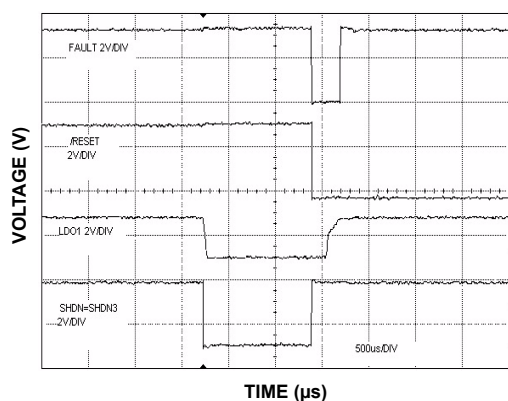

FIGURE 19. SHUTDOWN vs RESET and FAULT
**FAULT** - This is the power good indicator for LDO1. When the 1.8V output is out of regulation ( $>\pm 5\%$ , typ.), this pin goes LOW. This pin also goes LOW during thermal shutdown and any overcurrent event on LDO1. Connect this pin to GND, if unused. This pin remains HIGH in the shutdown mode, as controlled by the SHDN pin (refer to Figure 19).
Driving the SHDN input LOW puts both LDO1 and LDO2 in shutdown mode. Driving the SHDN3 input LOW puts LDO3 in shutdown mode. Pulling the SHDN and SHDN3 pins LOW simultaneously, puts the complete chip into shutdown mode, and supply current drops to 5µA typical. Both SHDN and SHDN3 inputs have internal pull-up resistors, so that in normal operation the outputs are always enabled; external pull-up resistors are not required. During shutdown mode using the SHDN pin, the FAULT output will remain HIGH (refer to Figure 19).
The FAULT pin monitors LDO1 output regulation, as well as fault conditions such as current limit and thermal shutdown. The FAULT output goes LOW, if the LDO1 output is out of regulation by  $\pm 5.5\%$  (typ.). During shutdown mode using the SHDN pin, the FAULT output will remain HIGH (refer to Figure 19).